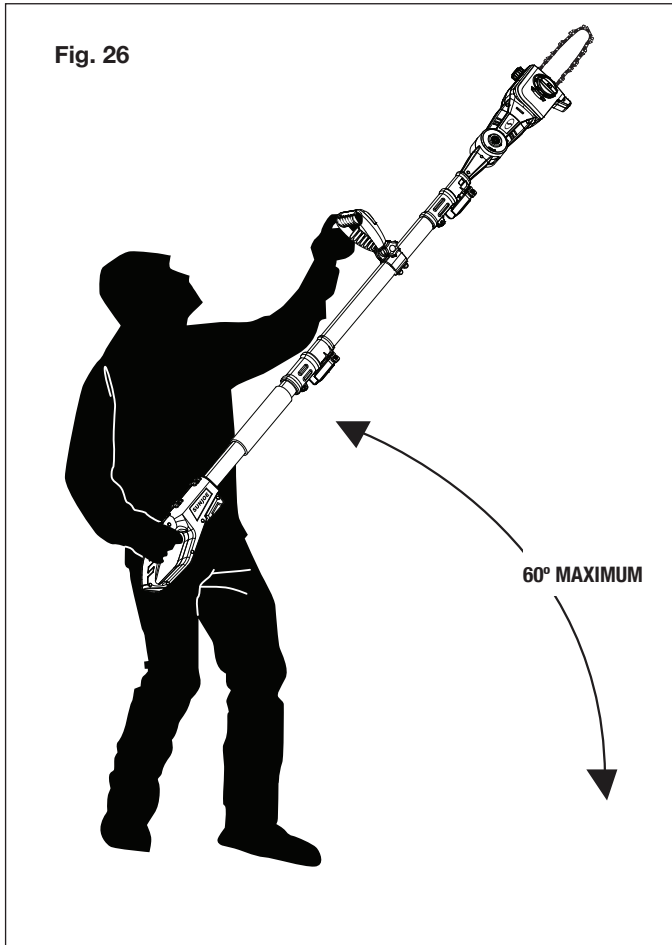

Fig. 26
- The most typical cutting application is to position the unit at an angle of 60° or less depending on the specific situation (Fig. 26). As the angle of the pole chain saw shaft to the ground increases, the difficulty of making the first cut (from the underside of limb) increases.
- Take the proper stance in front of the tree with the saw OFF (Fig. 26).